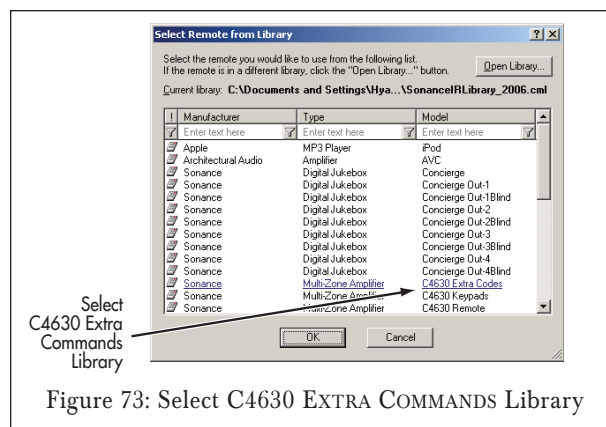

Figure 73: Select C4630 EXTRA COMMANDS Library
2. Use the OPEN LIBRARY button to select the SONANCEIRLIBRARY_2006.CML file, then select the C4630 EXTRA COMMANDS library (Figure 73).